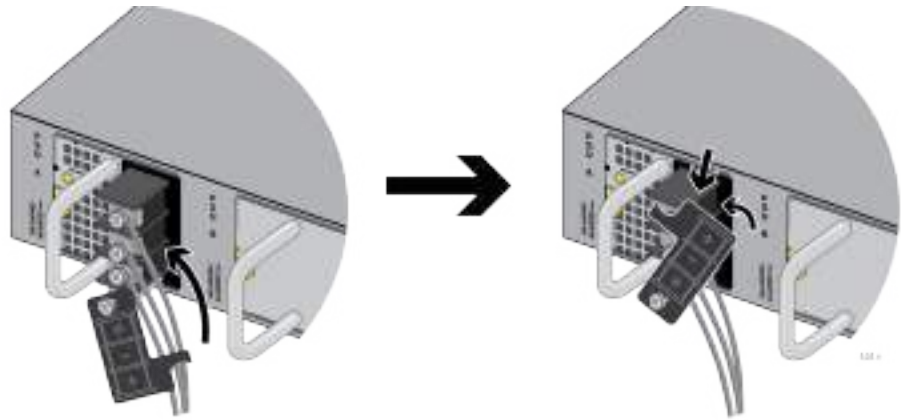

Figure 52. Placing the Cover Panel
8. Place the cover panel back to cover the connectors. Refer to Figure 52.